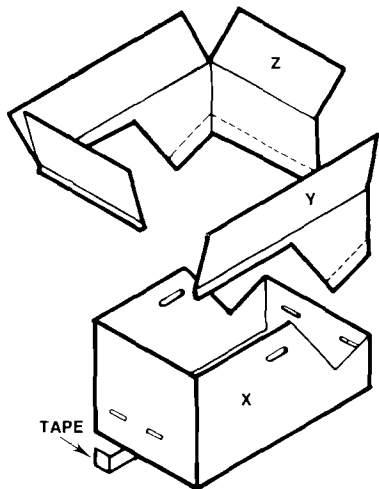

Figure 14
3. Separate carton into parts "X", "Y" and "Z". Tape bottom flaps of section "X" (See figure 14.)
1. Place carton part "Z" on top surface of range. (See page 7, figure 14.)